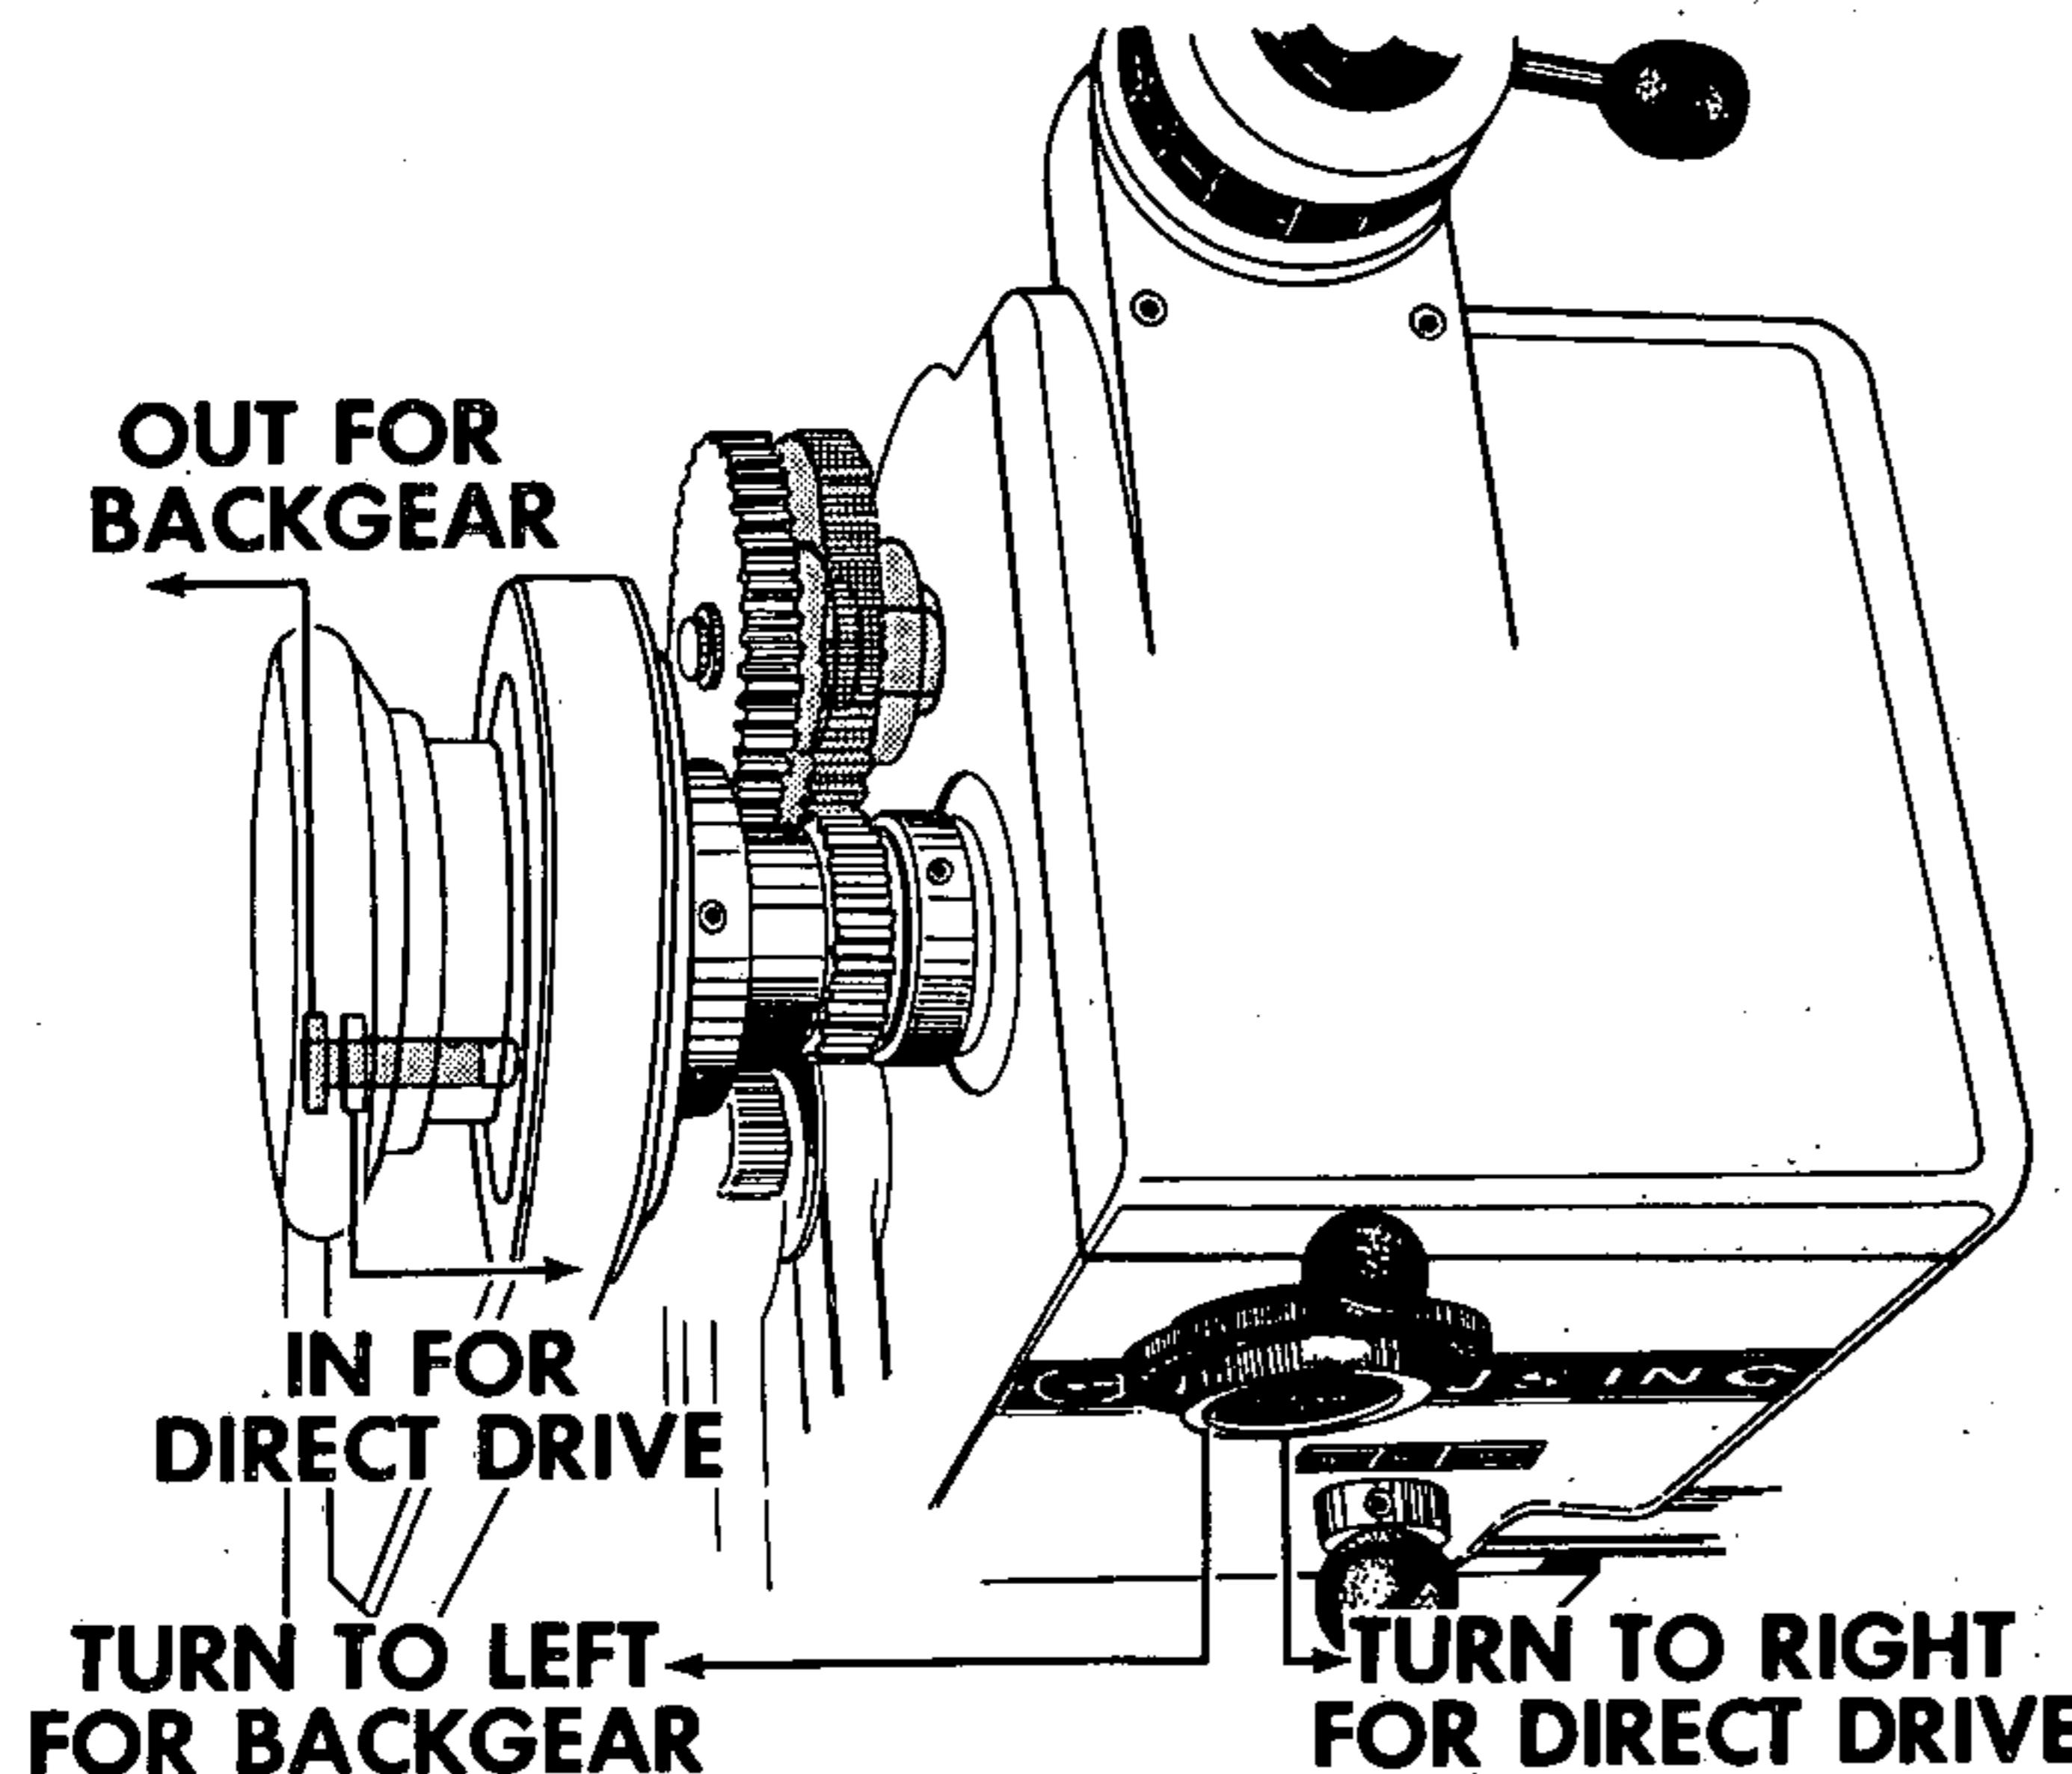

Figure 5
2. Turn back gear knob (figure 5) to the left -- *rotate spindle by hand if gears do not mesh.*